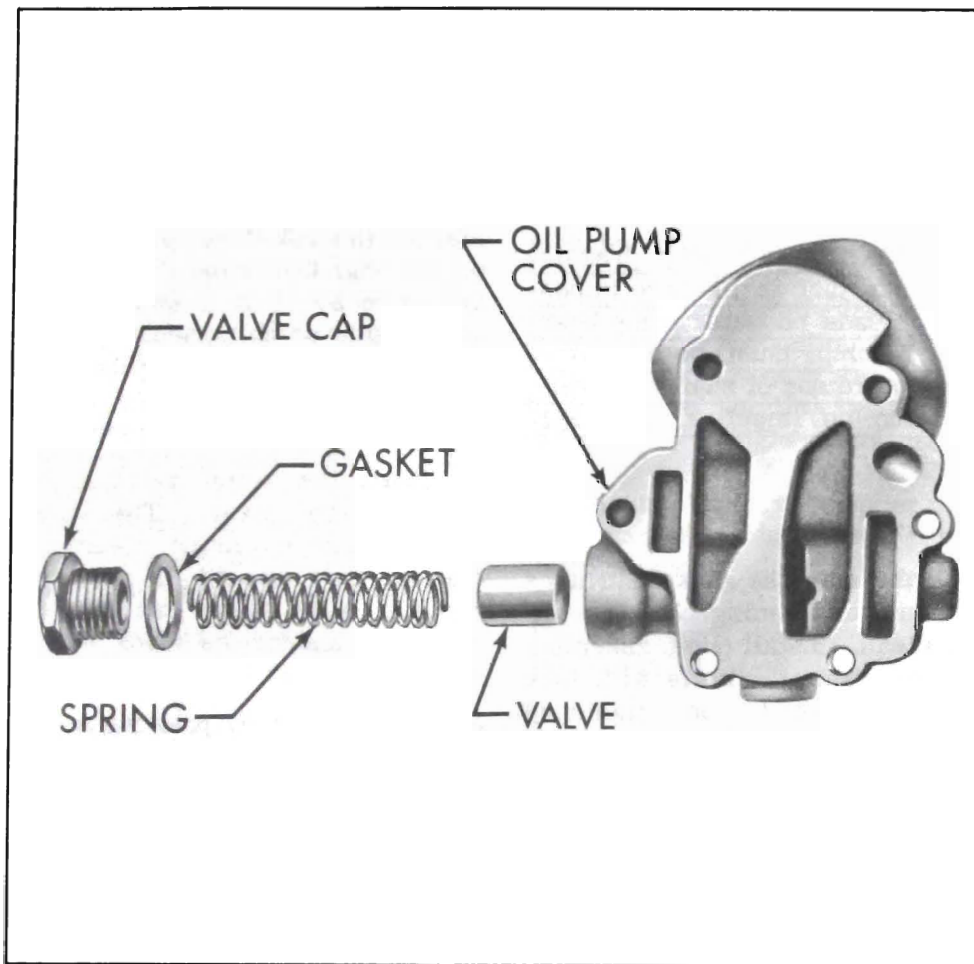

Figure 2-58—Oil Pump Cover
2. Remove the oil pressure relief valve cap, spring and valve. See Figure 2-58. Oil filter by-pass valve and spring are staked in place and should not be removed.